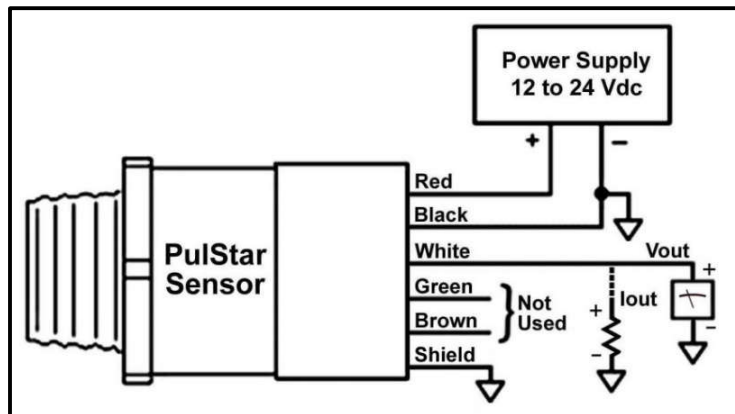
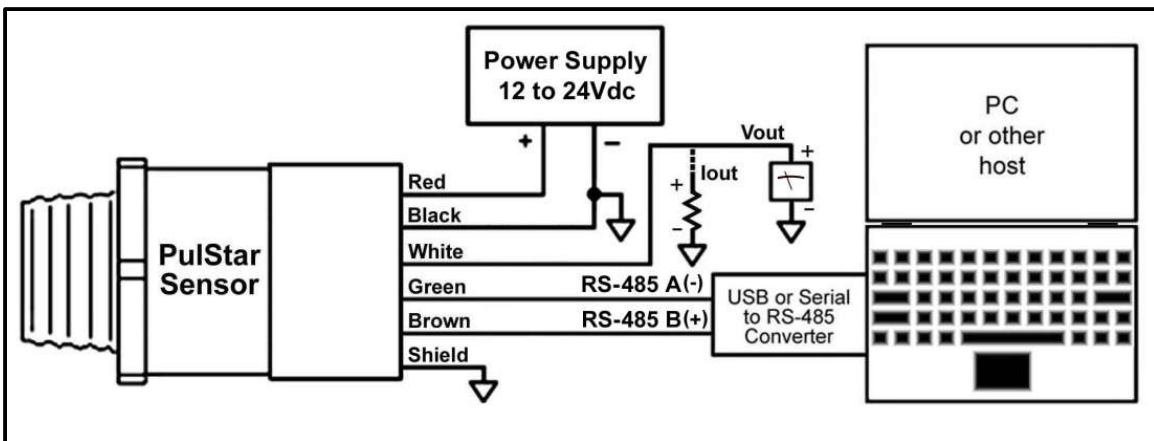

Figure 2
Figure 3
Communicating with PulStar® Ultrasonic Sensors is done through the RS-485 serial communications port. The advantages of an RS-485 based system include the ability to have long cable lengths and up to 32 sensors on one pair of wires (multi-drop). This method allows for access to all sensors from any convenient location. When communicating with a PC, a communications converter will be required to convert the signals from the PC’s USB or RS-232 port to the sensor’s RS-485 port. Wire the PulStar Sensor to the RS-485 Communication Converter as shown in Figure 3.
- Connect the sensor’s leads as shown in Figure 2. Sensors are programmed for the factory default setting. Applications may need setting adjustments which will require connection to the RS-485 port (green and brown wires) and the MassaSonic® Software (see Figure 3). Once configured, the RS-485 wires can be removed.
- Connect the sensor’s power leads as shown in Figure 3. If wiring the sensor’s Vout or Iout lead, connect it as well.
- Wire the sensor’s RS-485 green and brown wires as shown in Figure 3.